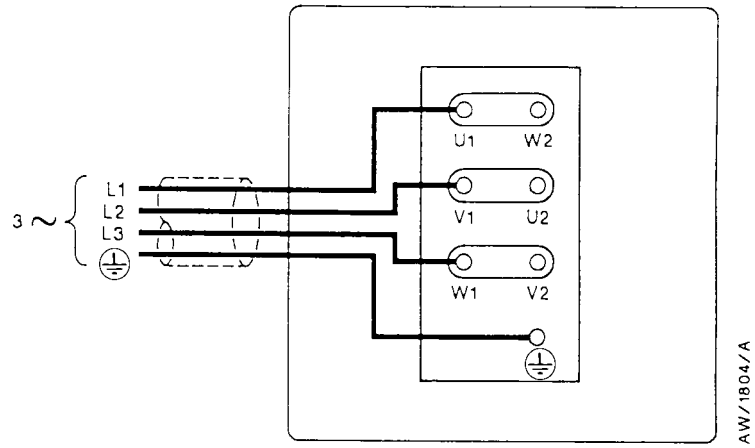

Figure 8 – Electrical supply connection, three-phase motors: 200-220 V 50 Hz and 200-230 V 60 Hz
We recommend that you connect the electrical supply to the motor through a starter or circuit breaker which has thermal over-current protection which can be adjusted to suit the full load current ratings shown in Table 5. The fuse ratings in Table 5 are provided for guidance only. The supplier of your thermal overcurrent protection device may specify different values to ensure correct operation of the fuse and the overcurrent protection device. Ensure that the fuse you use is suitable for the starting currents given in Table 5. Refer to Figure 8 or 9 as appropriate for the correct electrical supply connection diagram for your motor.
3. Refer to the electrical supply connection diagram for your pump, (Figure 8 or 9). Make sure that the metal links are connected as shown; if they are not, move the links to the positions shown.
4. Pass the electrical supply cable through the cable-gland and connect to the appropriate terminals, as shown in Figures 8 and 9. You must tighten the earth (ground) terminal connection to a torque of 2.13 to 2.87 Nm.
- Remove the terminal-box cover and swap wires L1 and L3: see Figures 8 and 9.